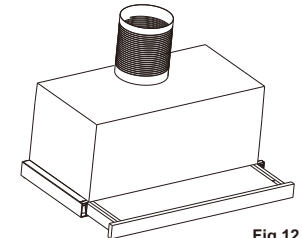

Fig.12
- Fit the flexible flue(not supplied) to the duct transition Use fixing tape to secure flexible pipe to the duct transition.(Fig.12)